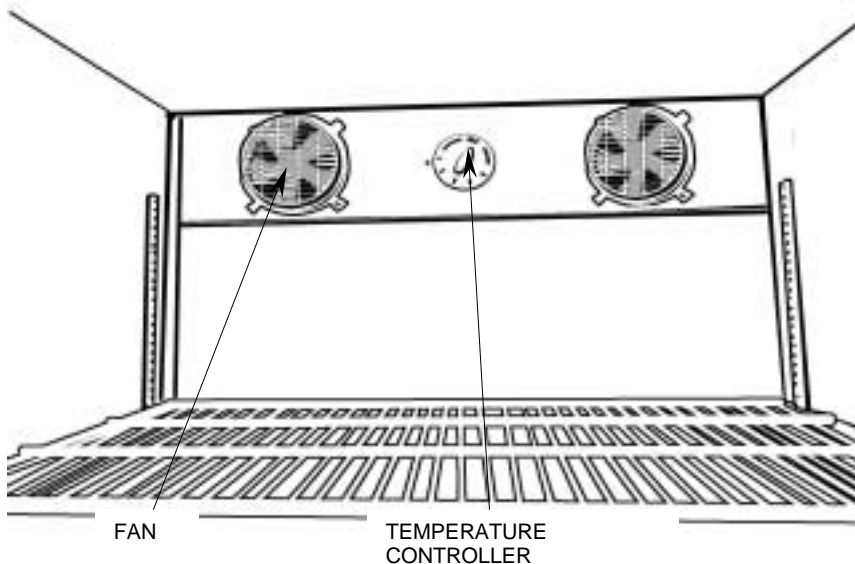

Figure 1. Refrigerator Interior.
**Temperature Controller:** See Figure 1. Remove the five machine screws from the fan/controller panel at the inside top of the refrigerator. Loosen the panel from the side molding strips being careful not to damage the trim or the wiring behind the panel. Disconnect the temperature-controller connector. Remove the mounting hardware of the temperature controller. Install the replacement controller using existing hardware. Reinstall the fan/controller panel and slide the side molding strips onto the edges of the panel.